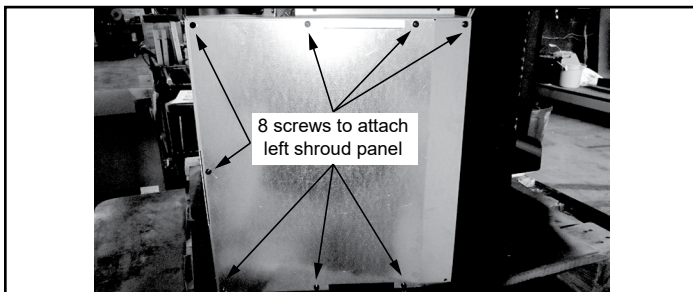

Figure 22.4
7. Attach the left shroud panel using eight screws (**Figure 22.4**).